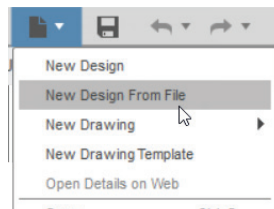

Figure-9. New Design From File tool
- Click on the **New Design From File** tool from the **File** menu; refer to Figure-9. The **Open** dialog box will be displayed.